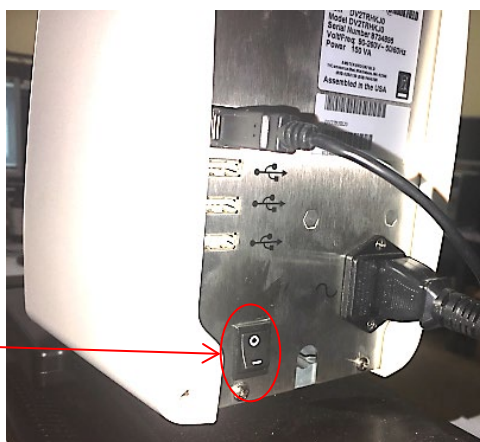

Figure 8: Head Unit ON/OFF Button (in rear)
1. Verify that the Head Unit power switch is OFF. Refer to Figure 8.